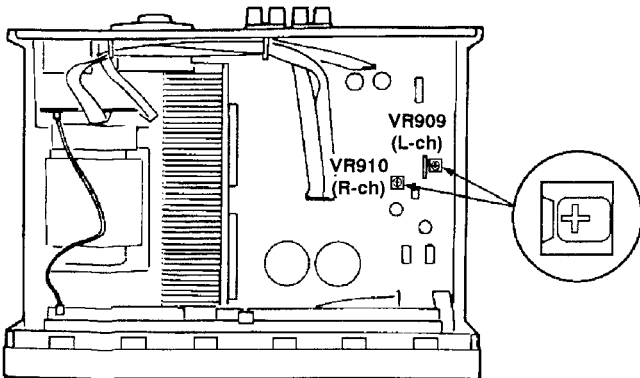

Fig. 2
2. Before turning **ON** the set, adjust **VR909 (L-ch)** and **VR910 (R-ch)** to mechanical center position (shown in Fig. 2).